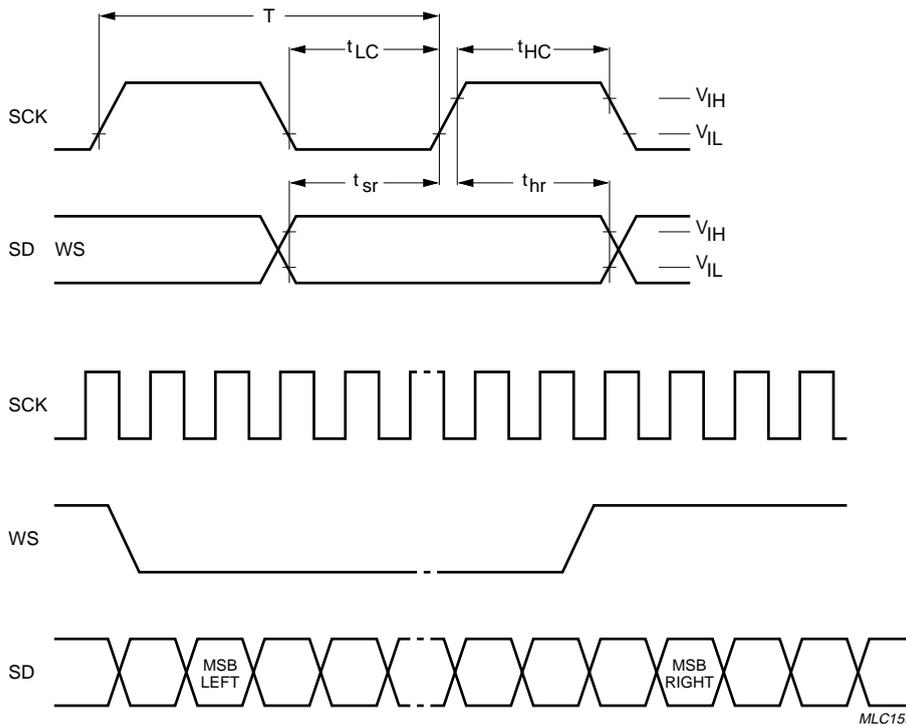

Fig.10 I²S-bus timing format.
The I²S-bus digital interface is used for communication to external digital sources. It is a 3-line serial bus with one line each for data, clock and word select. Figure 10 illustrates an excerpt from the Philips I²S-bus specification interface report with respect to general timing and format of the bus. Word select (WS) at logic 0 signifies the left channel and logic 1 the right channel.